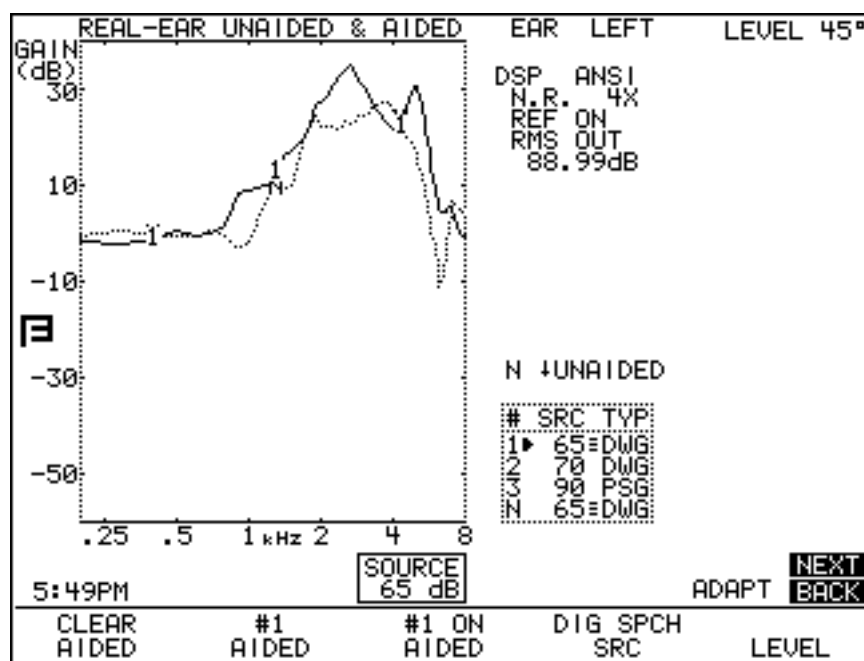

Figure 5.4.4B—"Forward" and "reverse" directional aid measurements in the real-ear unaided & unaided screen
14. Press [START/STOP] to take the measurement. If you're using a COMP or DIG SPCH signal, press [START/STOP] again to stop the signal once the measurement has stabilized. This curve is the "reverse" measurement. See Figure 5.4.4B.